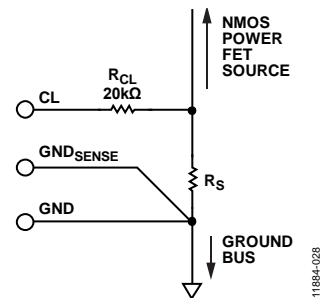
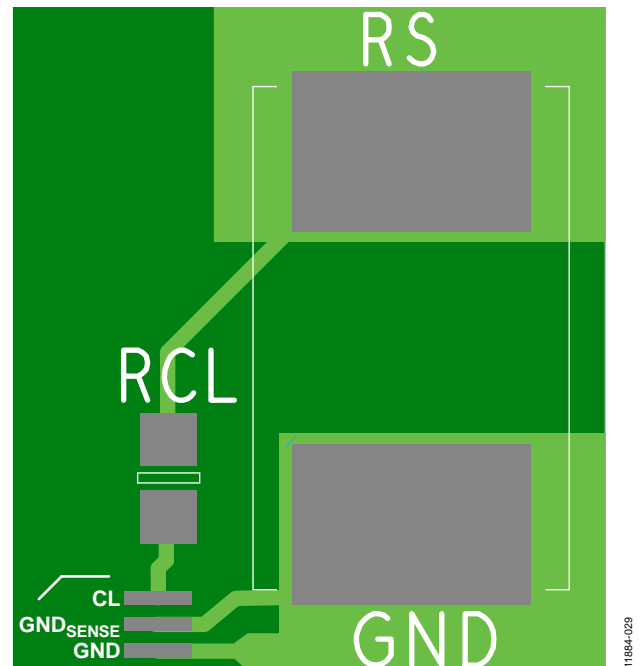

Figure 24. Recommended  $R_S$  Kelvin Ground Connection
Figure 25. Recommended  $R_S$  Kelvin Ground Connection on PCB Layout
- Use a Kelvin connection shown in Figure 24 and Figure 25 from the following: